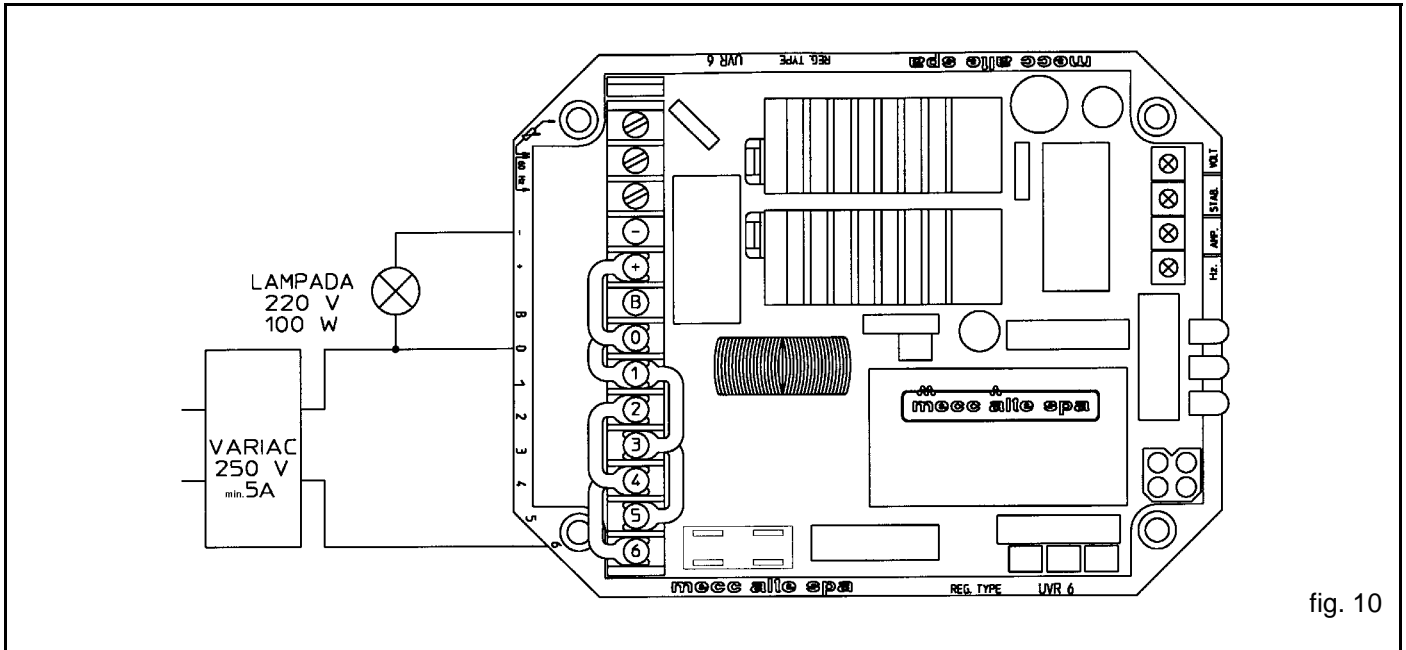

fig. 10
- ) Prepare the connection diagram as shown in figure 10.